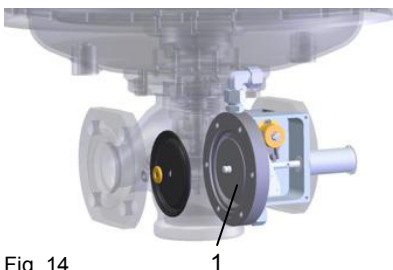

Fig. 14
- Insert the sealing ring (1) into the groove and secure with the covering disc (2) and the circlip (3).
- Press the shaft retaining washer (4) into the groove on the spindle. Replace the diaphragm plate (5).
- Secure the diaphragm plate (brass) and M8 nut (see Fig. 14).